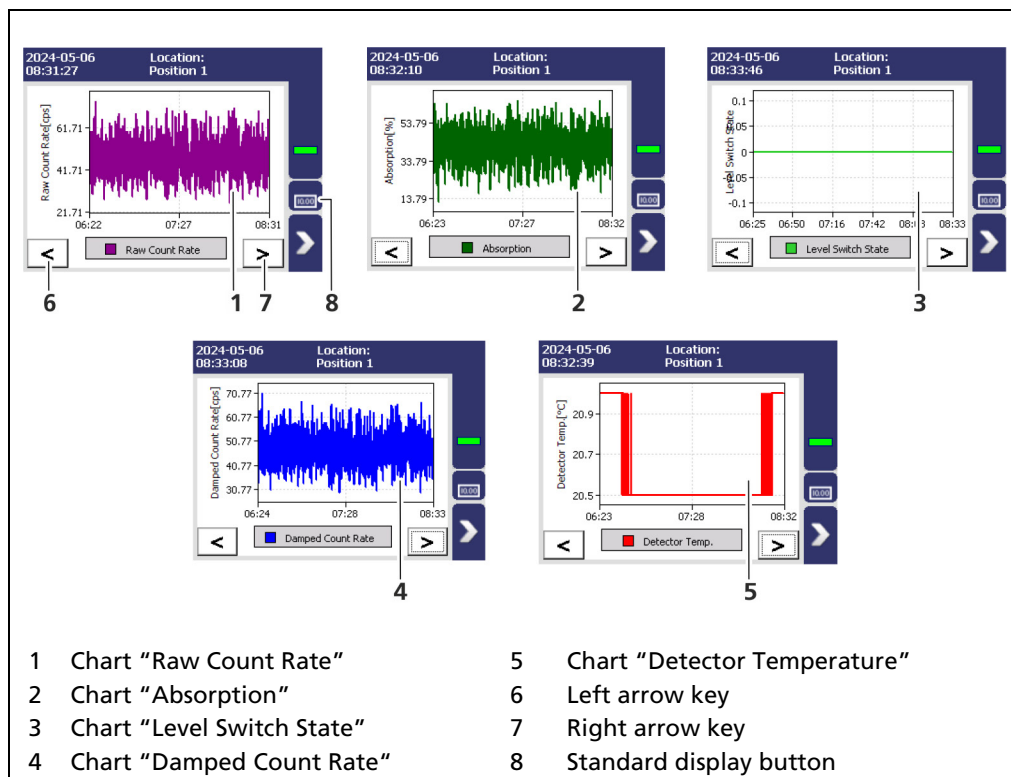
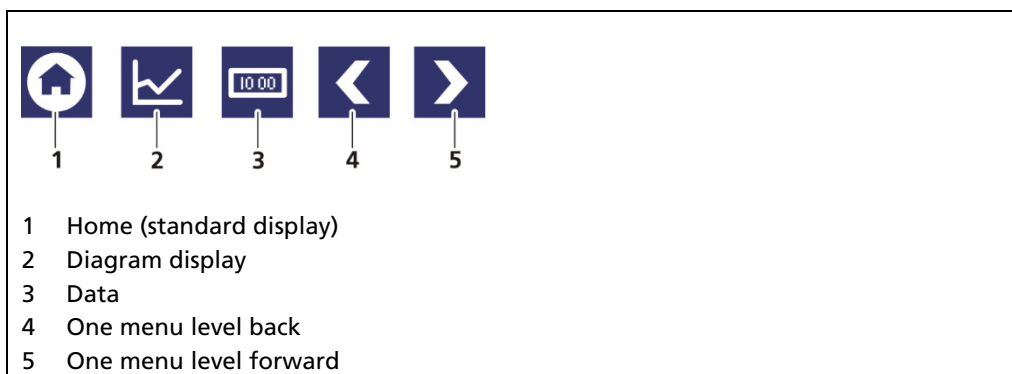
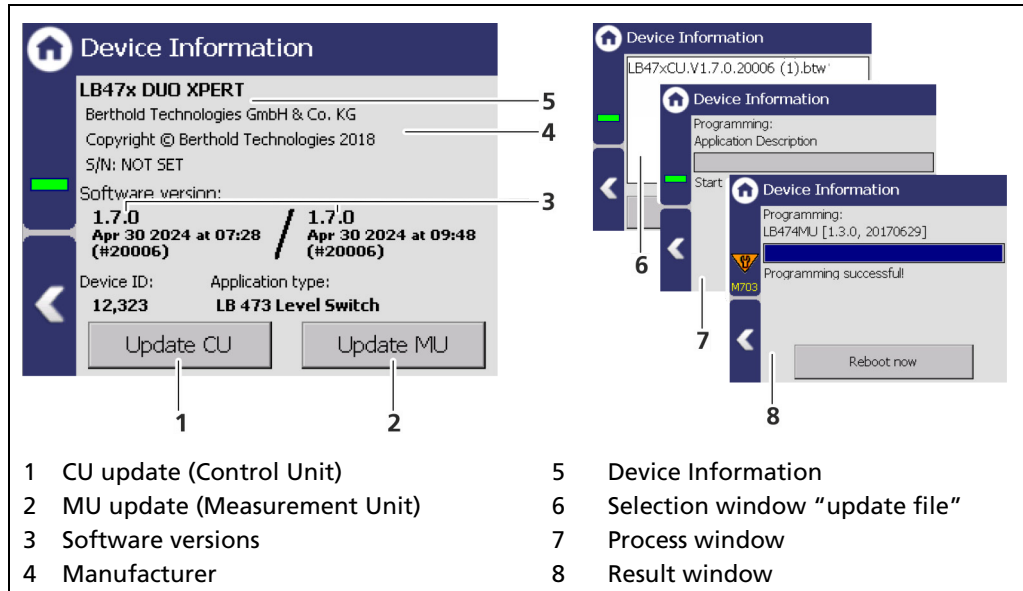

Fig. 16 Chart display of the EVU
Fig. 17 Icons for navigation
Fig. 24 Device Information
Clicking the chart symbol (Fig. 16, item 5) changes the view to the chart display. The arrow keys (Fig. 17, item 1) are used to switch between the charts. Clicking the display symbol (Fig. 17, item 3) changes the view to the standard display.
The location of the evaluation unit is displayed (Fig. 24, item 1) in the "Location" menu. The name can only be edited (7.2 Menu Access) in the access level "Standard". The Location is displayed on the EVU standard display (Fig. 16, item 1).